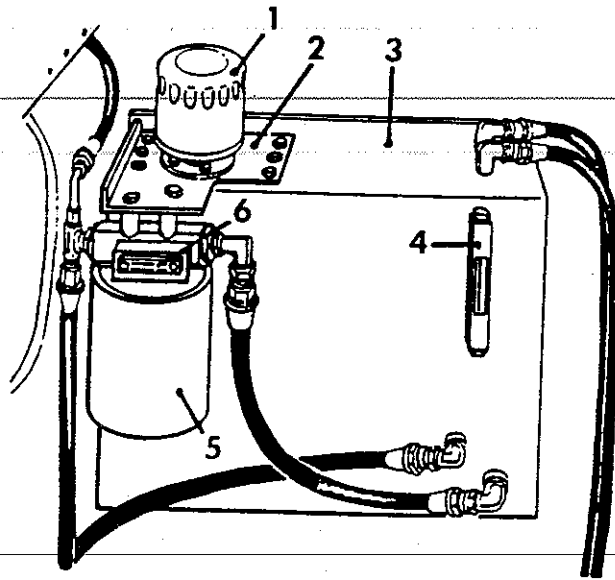

Figure 4-13. Hydraulic Fluid Reservoir
4-29. Checking the fluid reservoir. See figure 4-13. Inspect the sight gauge (4) with the hopper in the down position and the machine cool. Fill as needed. Hydraulic fluid should fill $\frac{2}{3}$ of the sight glass.